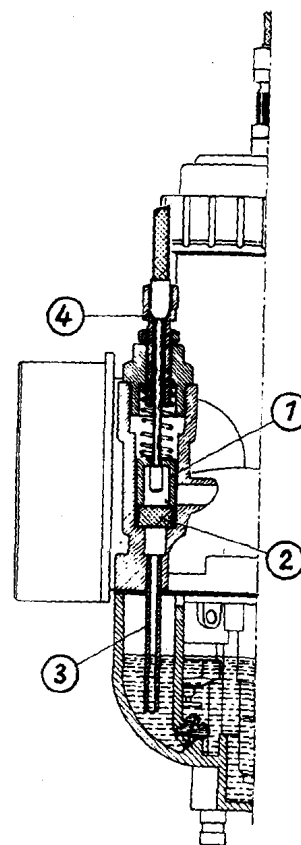
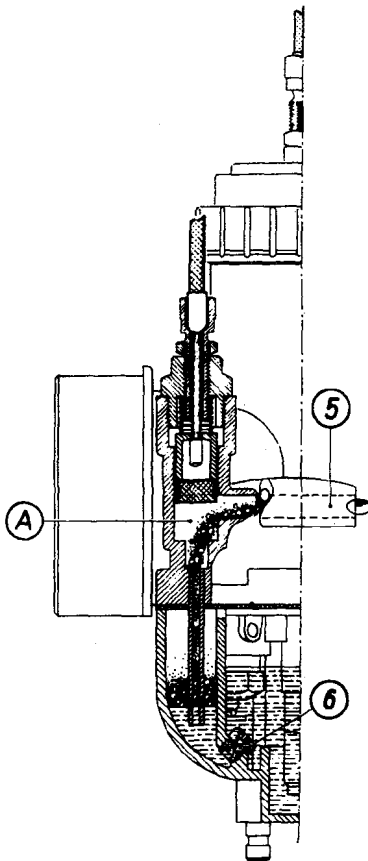

Fig. 189. Starting piston closed (driving position)
Fig. 191. Starting piston lifted (cold starting)
The cold starting device is shown in Fig. 189 (driving position, lever for starting carburettor at the handle-bars contacts the front stop) and in Fig. 191 (cold starting, lever for starting carburettor at the handle-bars is drawn towards the driver).
When the lever for the starting carburettor at the handle-bars is set to cold starting position (the lever is drawn towards the driver), then the starting piston with packing is lifted and, thus, the upper opening of the starting mixing tube (A), Fig. 191, is released.
The fuel in the starting mixing tube is sucked up when the engine is started and then passes through the starting duct (5), Fig. 191, which ends in the suction port after the throttle valve.
The lower opening of the starting mixing tube ends in a separate space, the starting compartment, which is connected with the compartment for the central float through the starting jet (6), Fig. 191.